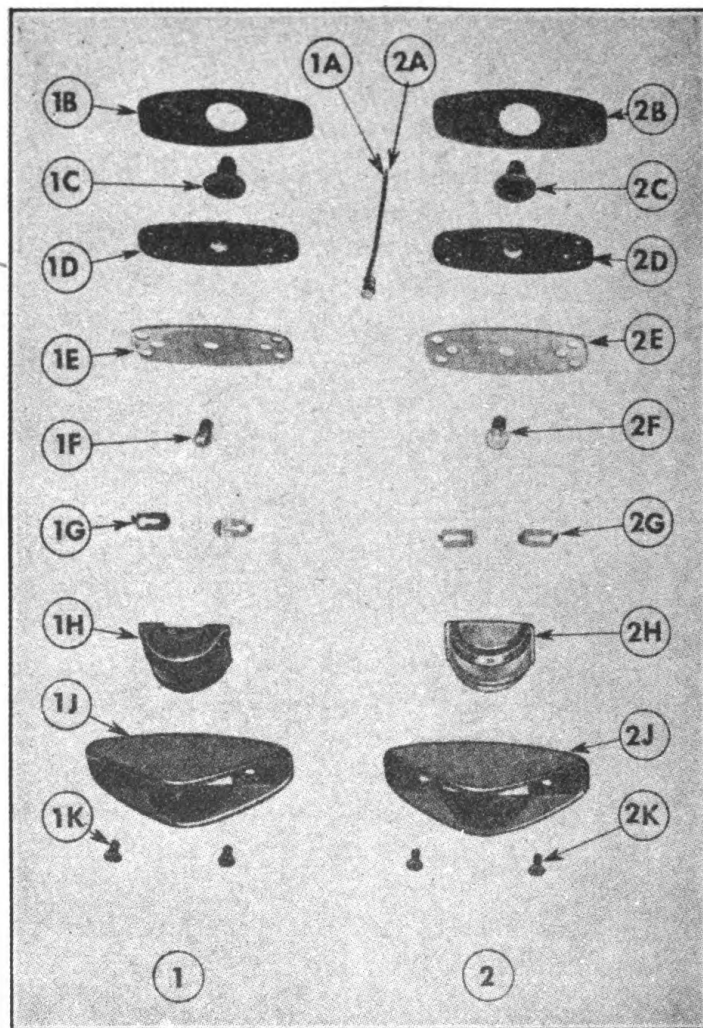

FIGURE 53. CLEARANCE LIGHTS—(1) BLACKOUT—(2) STANDARD
3. CLEARANCE LAMPS.—Servicing procedure on both standard clearance lamps and blackout clearance lamps is identical (Figure 53).
a. *Replacing lens.*—(1) Turn the two screws holding lens housing to lamp about three-quarters of the way out and lift housing off.